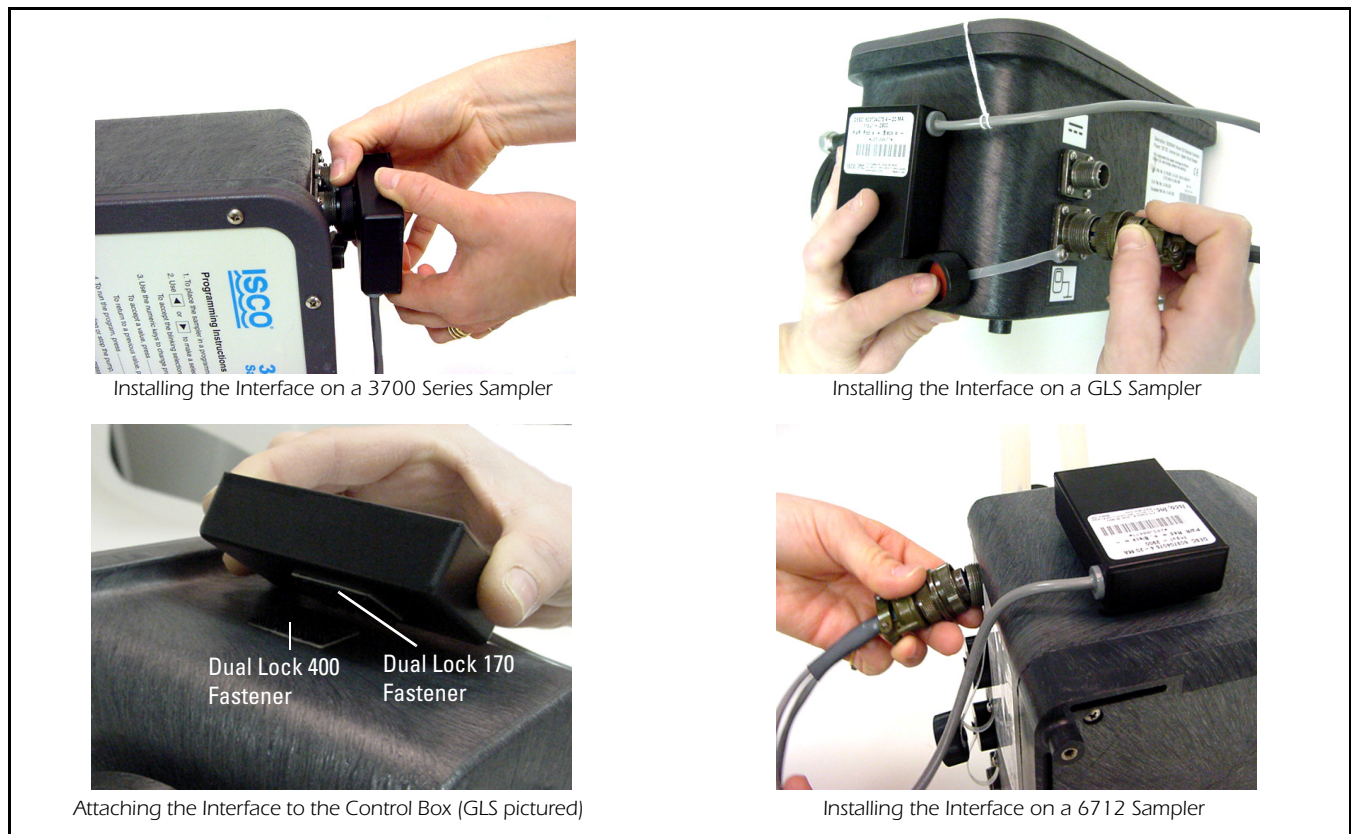

Figure 1: Installation on Various Samplers
- To attach the Interface to an Isco **3700** or **6100** Series Sampler, screw the output connector on the Interface directly onto the FLOW METER connector on the sampler by tightening the plastic knurled nut (Figure 1).
- To attach the Interface to **any other** model Isco Sampler, clean the end of the sampler control box and the back of the Interface with ethyl alcohol. Apply the **dual lock 400** fastener (the piece with the closely-spaced pins) to the sampler control box and the **dual lock 170** (the piece with the widely-spaced pins) to the back of the Interface housing. Press the Interface into place (Figure 1). Then, screw the Interface connector's knurled nut onto the FLOW METER connector on the Isco sampler (Figure 1).